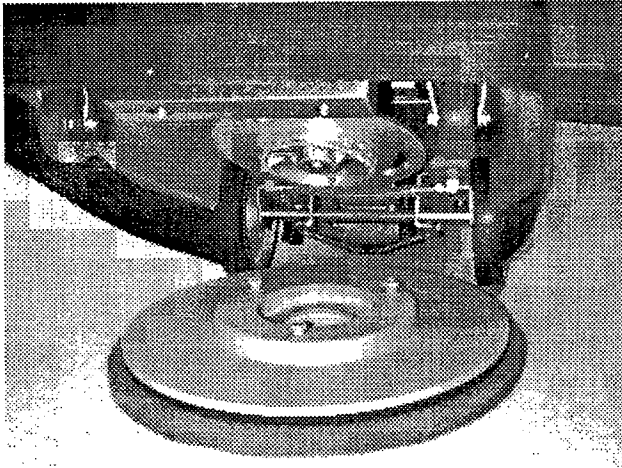

FIG. 6
6. Attach brush or pad driver to motor hub. Align 3 mounting studs with slots in motor hub. Give the driver a quick turn toward the spring clip on the motor hub. Be certain pad driver is securely fastened and spring clip locks into one of the studs on the driver before operating machine. (Figure 6)